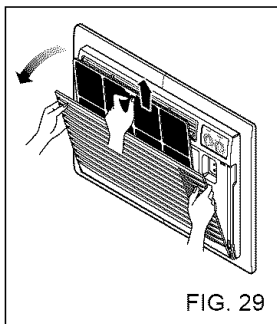

FIG. 29
- Pull the inlet grille forward and pull out the air filter. (FIG. 29)